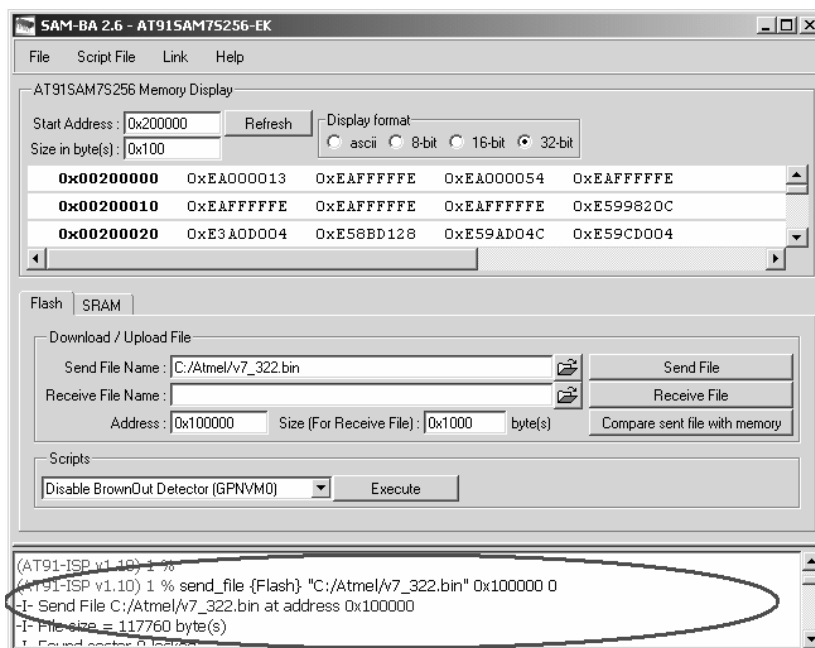

Fig. 5 Verifying Code was Sent
- f. When sending was finished, you will be asked to lock all locks that you have opened just now, click the button "Yes" to lock these locks. You can verify that the code was send to the board by scrolling up in the message box. See Figure 5 below.